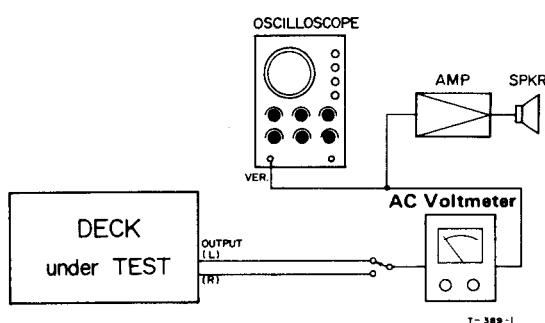

Fig. 6-6 Connection
1. Connect the deck and the test equipments as shown in Fig. 6-6 on page 19.